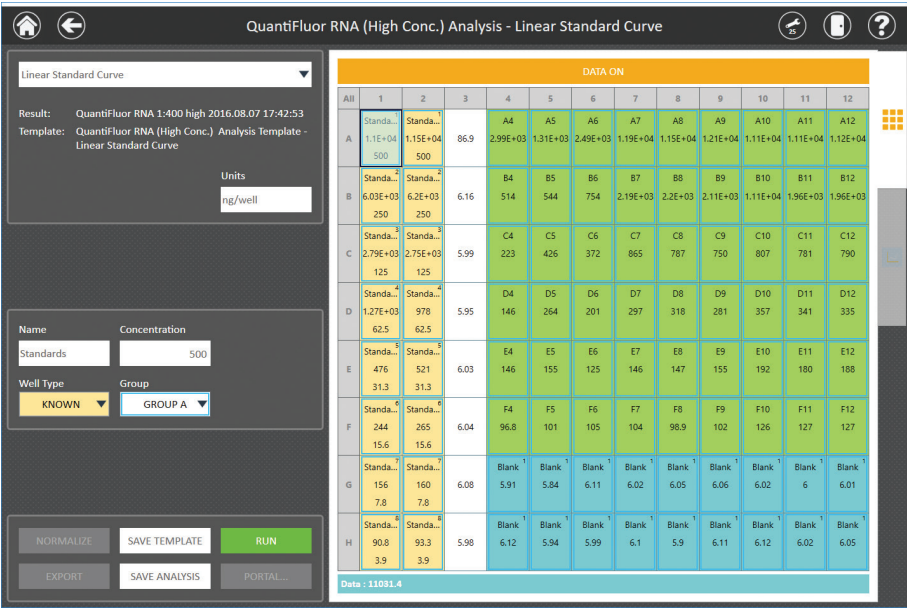

Figure 75. Analysis screen displaying the Portal button.
1. After running the analysis and assessing your data, press the **Portal...** button to open the 'Portal Data Export' screen (Figure 75).